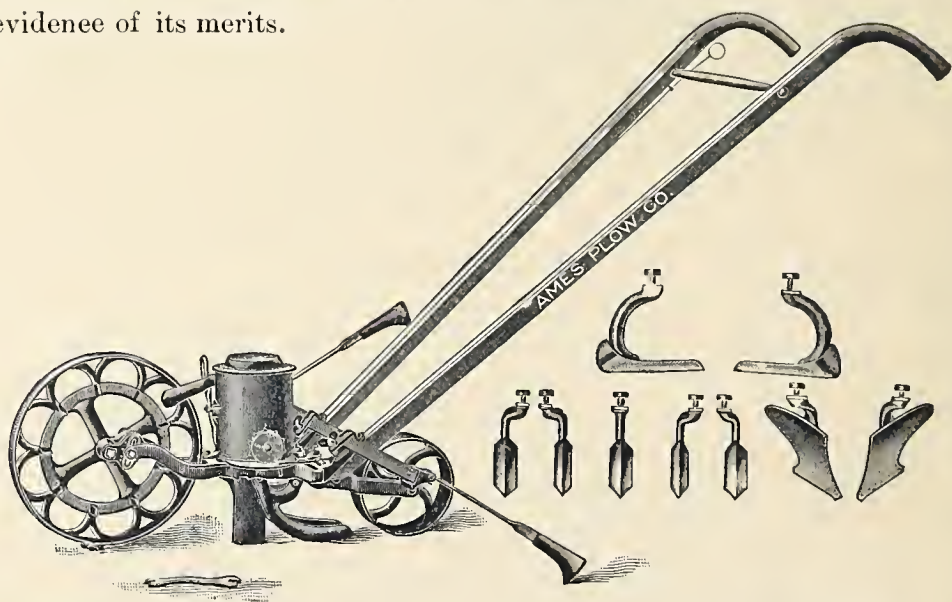

Fig. B 314.—Matthews Garden Drill, New Universal Model, single wheel, with Hoe, Cultivator and Plow Attachments.
*Matthews Garden Drill, New Universal Model*, single wheel, with hoe, cultivator and plow attachments, is illustrated at *Fig. B 314*. This desirable combination